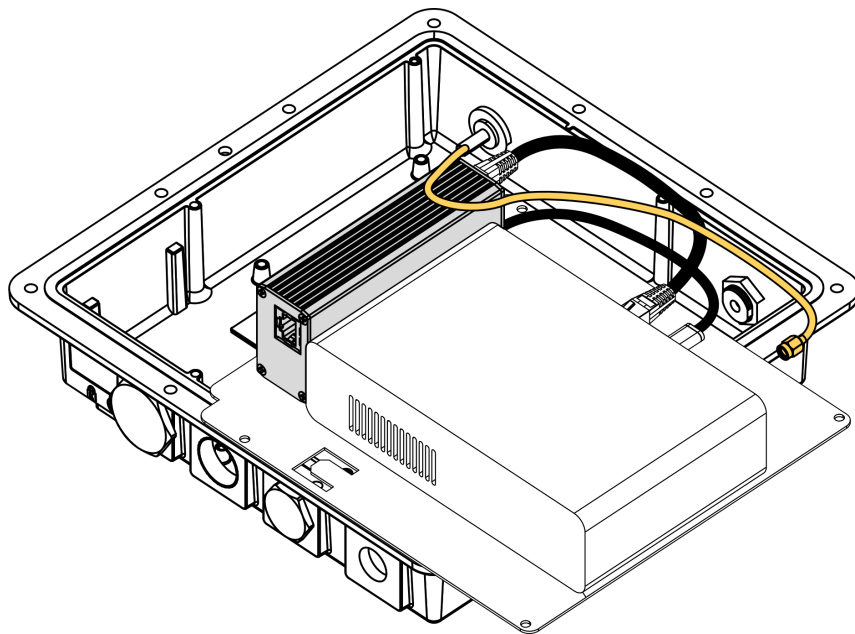

Figure 7: Connecting the antenna connector
6. Connect the antenna connector of the enclosure to the antenna connector of the device, as shown in Figure 7.